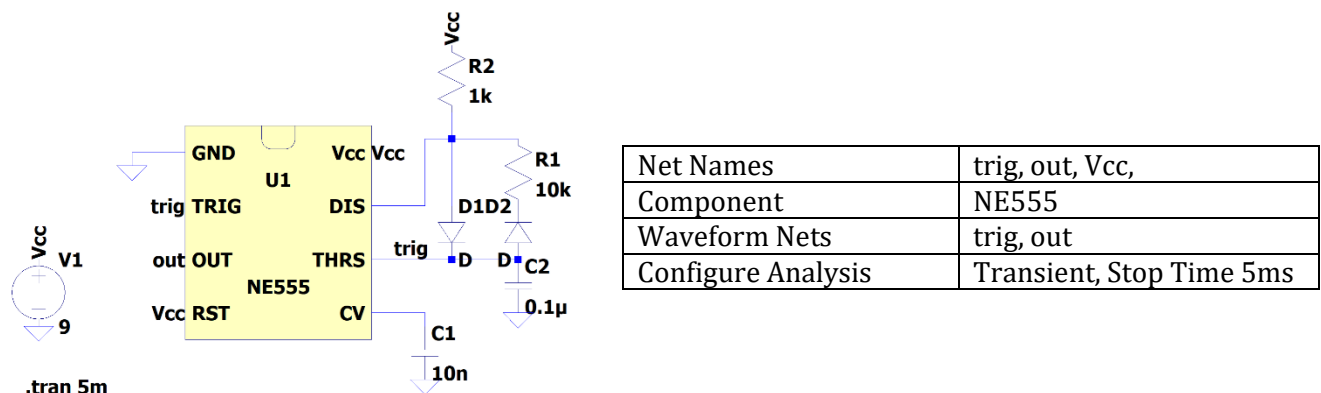
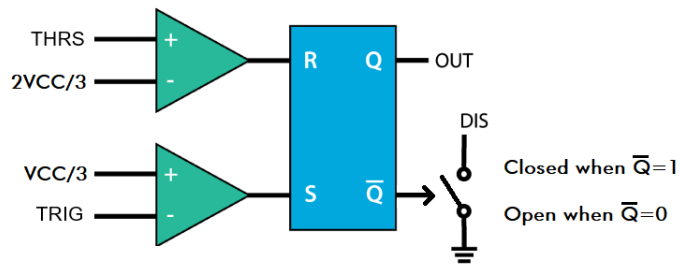
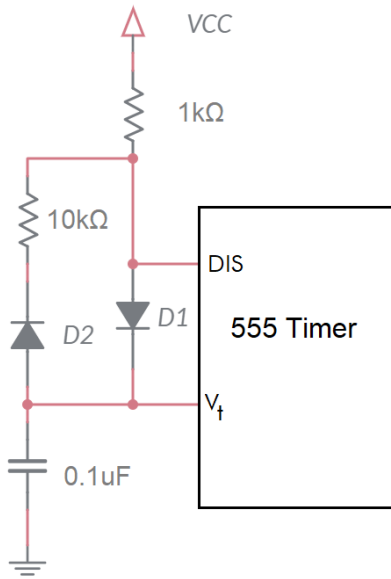
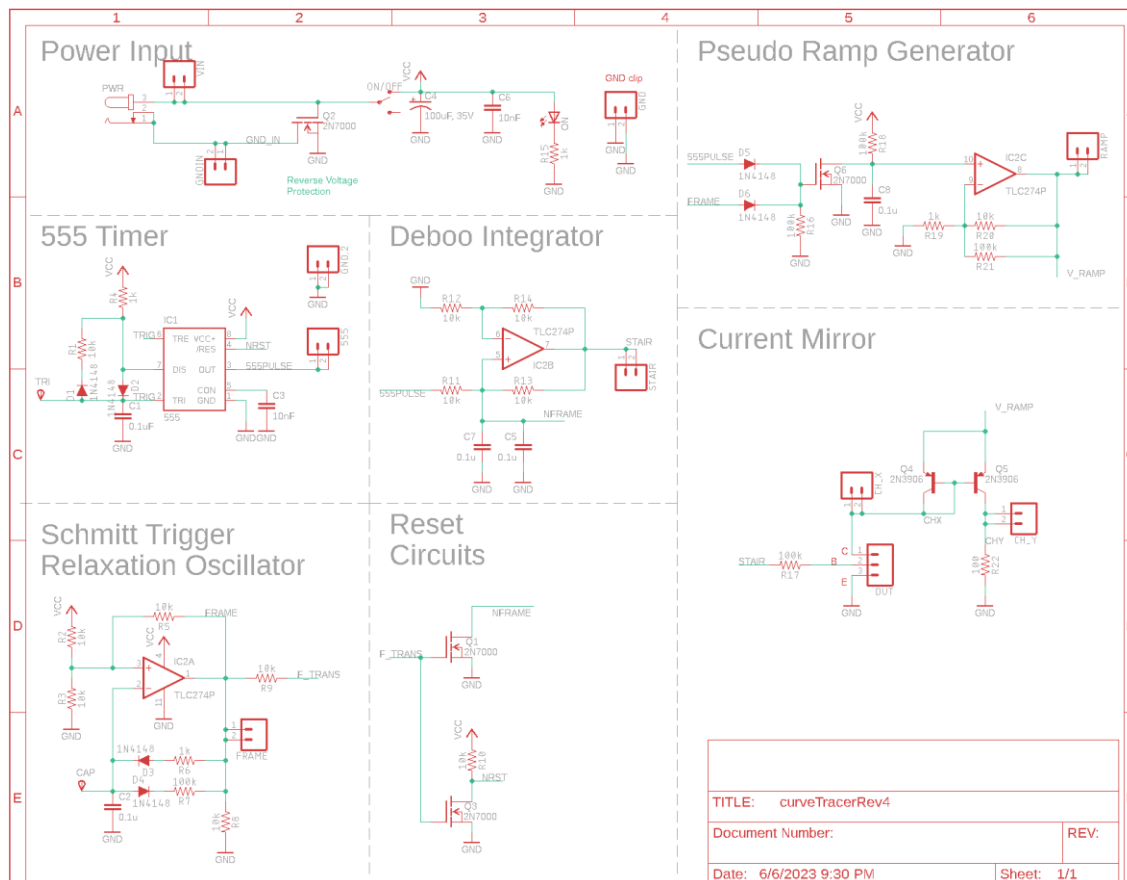

Figure 1: The output of the 555 Timer oscillates with a predictable period and duty cycle. Schematic drawn in LTspice.
Figure 2: A highly simplified rendering of a 555 Timer's internals.
Figure 4: The circuit in Figure 1 with the 555 Timer replaced with the two signals examined in Figure 3.
Figure 7: The schematic for the BJT curve tracer.
We will start by examining the behavior of today's circuit and then use our understanding of the circuit to quantify the behavior of the circuit. The circuit shown Figure 1 is built around the 555 Timer, a chip seen since the early 1970s. Its use is now limited to niche applications; it is not something you are likely to use much in industry. That said, an analysis of the circuit Figure 1 will allow us to practice valuable skills.
In order to analyze the circuit in Figure 1, you first need to understand the internal operation of the 555 Timer chip. A highly simplified view of its internal structure is shown in Figure 2. You will notice some of the pins shown in Figure 1 are not shown in Figure 2. These omitted pins do not affect the behavior of the circuit shown in Figure 1, so to simplify the explanation, they are omitted. Finally, note that VCC is the system voltage in Figure 1, for simplicity, we will assume throughout the lab that VCC = 9V.
Let's start our exploration of Figure 2 by examining the pair of green triangles called comparators. We will call the upper comparator the "R-comparator" because it is connected to the R input of the blue box. Likewise, we will call the lower comparator the "S-comparator". Notice each comparator has a + and - input on its left, and its output on the right. The behavior of a comparator is described by the following two statements.
Use these definitions and the schematic in Figure 2 to answer the following two questions. Assume that $V_{CC} = 9V$, so state your answers in terms of numerical volts, not symbolically in terms of VCC.
Notice the THR and TRI inputs to the 555 Timer are tied together in Figure 1. We will call this common voltage V_t in the following text. Make note of this assignment now. Next, let's look at the blue box in the middle of Figure 2 known as an SR-latch. The input voltages to the SR-latch come from the comparator. When the comparator outputs VCC, the SR-latch interprets this as a logic 1. A comparator output of GND is interpreted by the SR-latch as logic 0.
The last element of Figure 2 is the voltage-controlled switch connected to the $\bar{Q}$ output of the SR-latch. This switch opens and closes under the control of the $\bar{Q}$ signal, hence the arrow head. When $\bar{Q} = 1$, the switch is closed, connecting the DIS pin to ground. When $\bar{Q} = 0$, the switch is open,
3. Now, let’s summarize our understanding of the components in Figure 2 to complete Figure 3. In this figure, the vertical axis represents the voltage of V_t (the common voltage of the TRI and THR pins in Figure 1). The voltage range of V_t is split into 3 ranges, 9V-6V, 6V-3V, and 3V-0V. For each of these ranges:
With our new understanding of the 555 Timer, let’s return to the circuit shown in Figure 1 so that we can understand the role of the external components in the operation of the circuit. We will approach this question by replacing the 555 Timer with the V_t and DIS signals examined in Figure 3. The resulting circuit, shown in Figure 4, contains resistors, capacitors, a 555 Timer, and D1, D2, diodes. We will study diodes in much more detail later, but for now, consider them as circuit elements allowing current to flow in one direction as indicated by the triangle. So, for example, D1 will only allow current to flow downwards and D2 will only allow current to flow upwards.
Now, you will use the information from Figure 3 to determine to describe what the external circuit in Figure 4 functions like as V_t changes. Complete the sentence or write an expression for each of the bulleted items in questions 4 and 5. When two **bold** choices are separated by a “/”, replace them with the correct answer. Fill in underlines with values.
4. Determine the circuit behavior in Figure 4 when V_t is between 0V-3V.
5. Determine the circuit behavior in Figure 4 when V_t is between 6V-9V.
Use the skills learned in Lab 0 to build the 555 Timer circuit shown in Figure 1. After you setup the simulation, use the cursors to measure the simulation values asked for in the Simulation column of Table 4.
This week, you will be soldering in the components associated with the POWER INPUT, 555 TIMER subsystems shown in the Figure 7 schematic. It is important you do not solder in any of the other components in any of the other subsystems. This lab document contains cursory coverage of the assembly process. You can find much more detail in the Assembly Guide posted on Canvas.
The POWER INPUT area of the schematic in Figure 7 enables you to supply power to the BJT curve tracer board from either an power jack or through the VIN and GND terminals. A SPDT slide switch allows the user to turn the BJT curve tracer on or off while leaving the power input connected. An indicator LED confirms the BJT curve tracer is powered on when it is illuminated. A pair of capacitors smooths out the power delivered to the BJT curve tracer. Finally, a MOSFET disconnects the power input if you accidentally reverse the positive and negative power leads. You will learn more about this MOSFET in a later lab.
The 555 TIMER subsystem in Figure 7 is identical to the circuit analyzed in in Figure 4.
Most of the parts in this schematic have a designator and a value. The designator is a letter followed by a number. The designator letter tells you what type of part it is, “R” for resistor, “C” for capacitor, etc. The designators on the PCB match those on the schematic in Figure 7. This provides you with a means to find a part. You should take a moment to notice parts which are logically related in the schematic are physically proximal on the PCB.